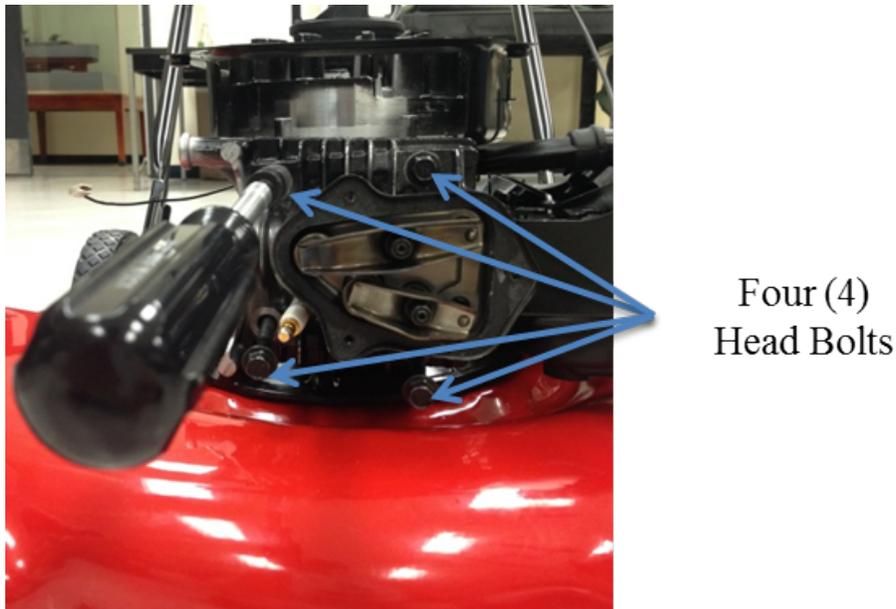

Figure 3: The four cylinder head bolts
13. Remove the cylinder head/carburetor/and gas tank by removing the four head bolts, which are shown in Figure 3. These bolts are 10mm and are the only metric fasteners on this mower.